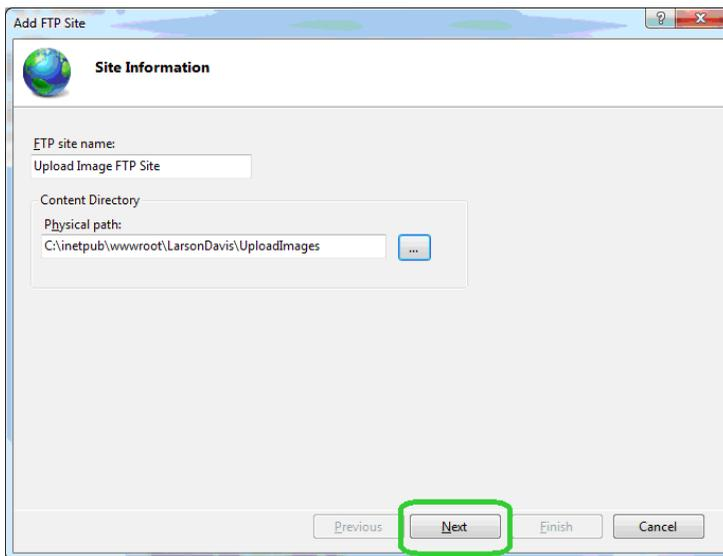

FIGURE 2-33 Add FTP Site - Site Information
Step 6 On the Site Information page of the Add FTP Site wizard, type **Upload Images FTP Site** for the FTP site name, as shown in FIGURE 2-33.
Step 7 Under Physical path: type **c:\inetpub\wwwroot\LarsonDavis\UploadImages**, as shown in FIGURE 2-33, or browse to the folder and select it.